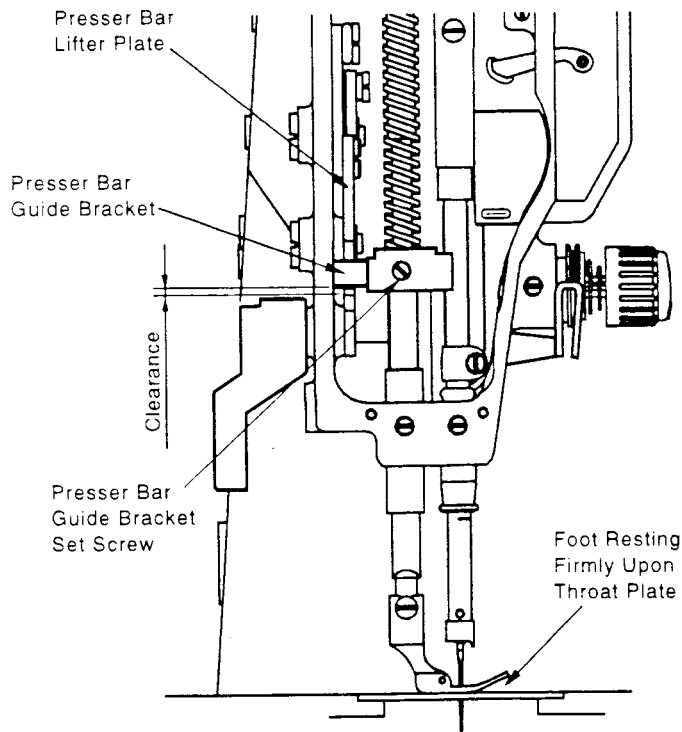

Fig. 4
1. When presser foot rests firmly upon throat plate (with feed dog below throat plate) there should be some clearance between presser bar guide bracket and presser bar lifter plate, as shown in Fig. 4.